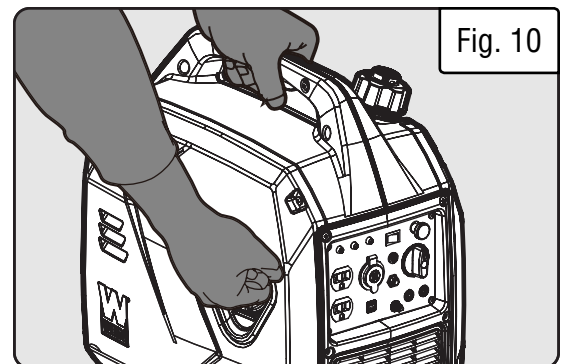

Fig. 10
10. Pull on the recoil starter handle (Fig. 10) slowly until a slight resistance is felt, then pull quickly to start the engine. Return cord gently into the recoil starter. Never allow the cord to snap back.